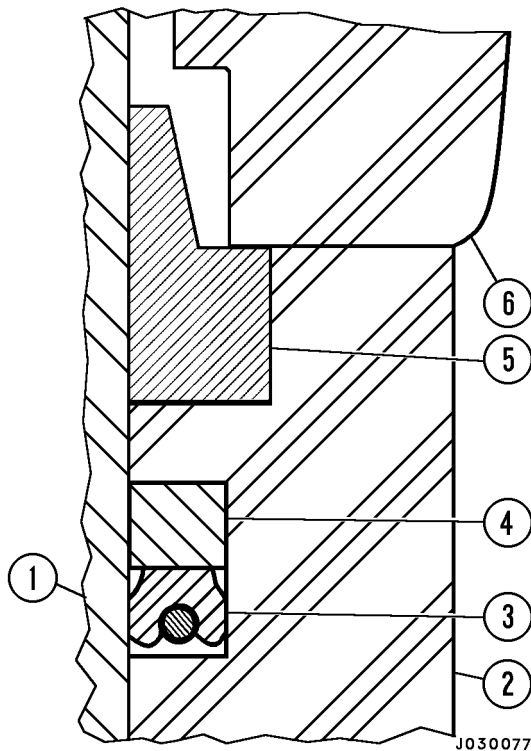

FIGURE 3-6. VALVE BODY SEAL INSTALLATION
1. Install the poly-pak seal (3, Figure 3-6) in the seal groove first. Position the seal in the groove so that the internal O-ring inside the poly-pak seal is facing down toward the bottom of the valve.
2. Make sure the internal O-ring is still seated inside the poly-pak seal (3) and did not get dislodged during installation. Position the poly-pak seal to the bottom of the groove.
3. Install the orange back-up ring (4) on top of the poly-pak seal. Start by hand and then continue to work into the groove either by hand or by using an O-ring installation tool.
4. Install the wiper seal (5) in the top counterbore. Position the seal in the groove so that the register lip is facing up toward the actuator.